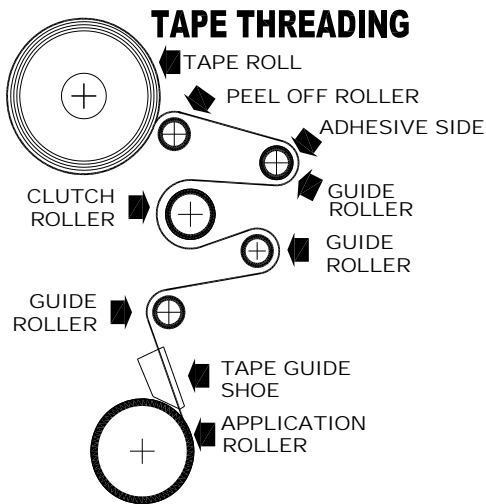

Figure-20
1. As Illustrated In **Figure-20**, First Thread The Tape Tail Over The **Peel Off Roller**.